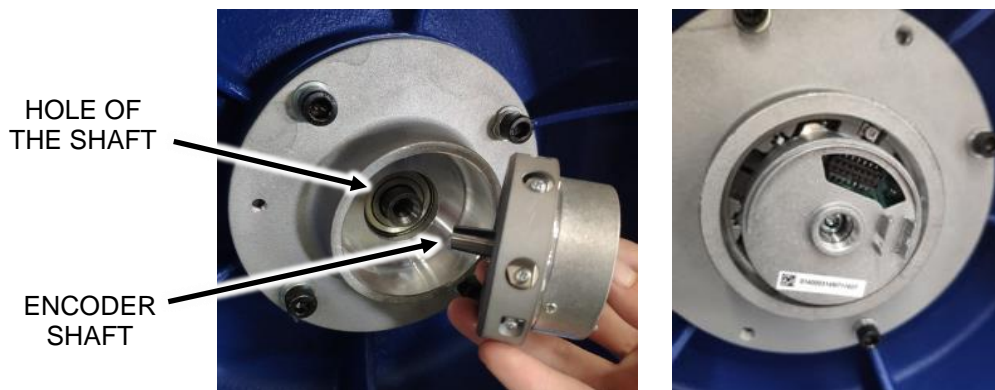

Figure 24
2. There is a taper in the front of the encoder shaft, put the encoder shaft into the hole of the shaft. Figure 24.